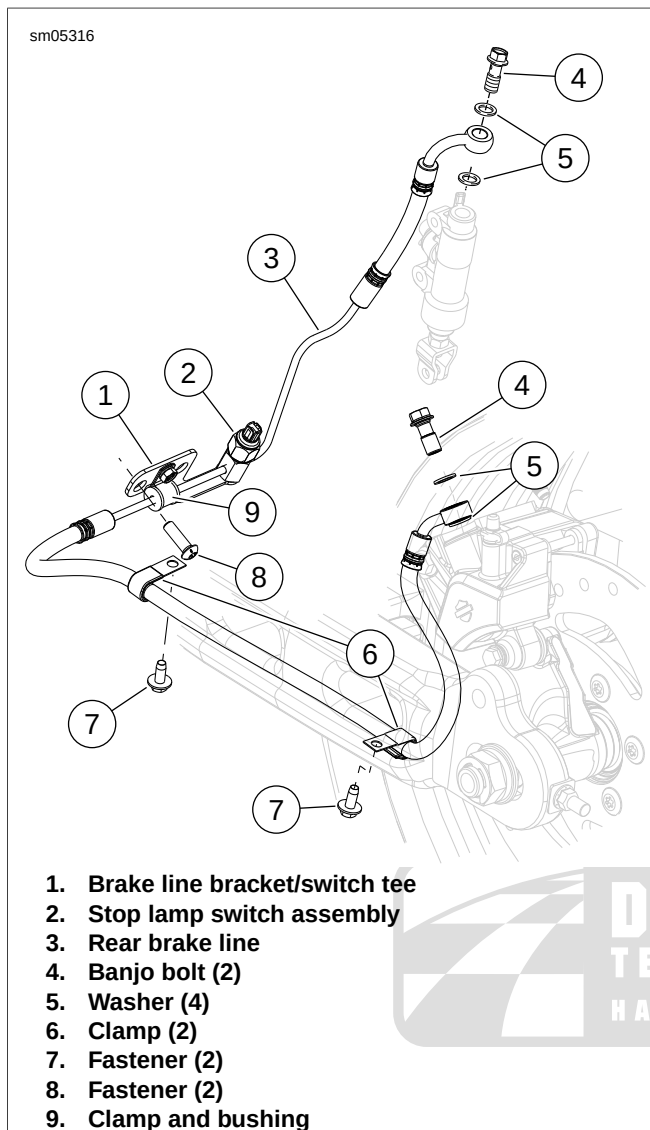

Figure 2-152. Rear Brake Line: XR Models
- See Figure 2-152. Unplug harness connectors [121] from stop lamp switch (2).
- Remove banjo bolts (4) and washers (5) to detach rear brake line (3) from master cylinder body and rear brake caliper. Discard washers.
- Remove fasteners (7) to detach brake line clamps (6) from rear fork.
- Remove fasteners (8) securing brake line bracket/switch tee (1) to lower frame.
- If necessary, remove clamp and bushing (9).
1. See Figure 2-152. Thread stop lamp switch (2) into brake line bracket/switch tee (1) on rear brake line (3). Hold hex body of brake line bracket/switch tee with an open-end wrench. Using a 1.0-in. six-point deep socket, tighten stop lamp switch assembly to 80-123 **in-lbs** (9.0-13.9 Nm).
2. If removed, install clamp and bushing (9).
3. Route brake line assembly to master cylinder and brake caliper. Loosely install **new** washers (5) and banjo bolts (4) to hold line in place.
4. Position brake line bracket/switch tee on lower frame and secure with fasteners (8). Tighten to 17-22 **in-lbs** (1.9-2.5 Nm).
5. Connect harness connectors [121] to brake lamp switch (2).